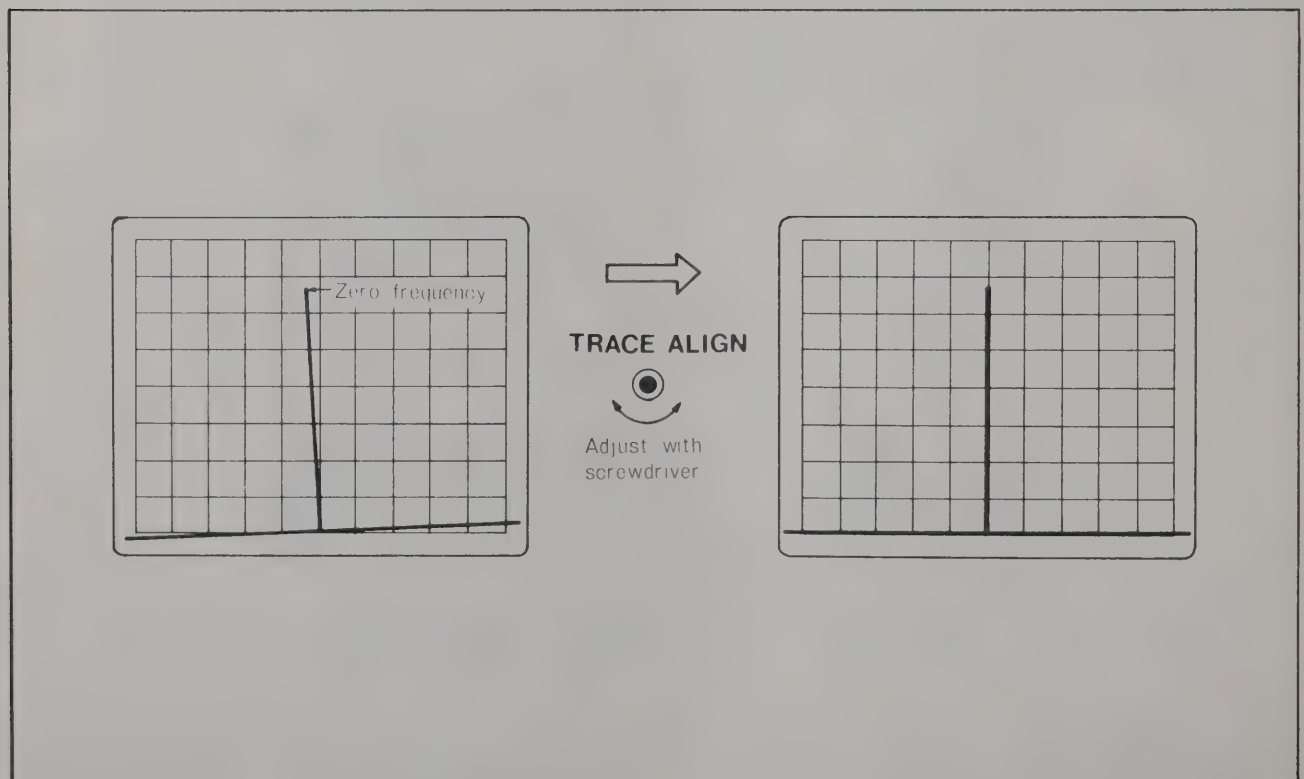

Figure 3.4 Trace Align Adjustment
align the trace to the horizontal markings (See Figure 3.4).
**3.4.2.2.3** Trace Alignment Calibration: See 3.4.1.6 and Figure 3.4